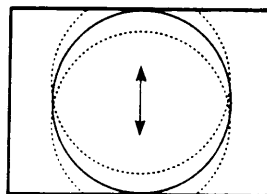

Fig 1.
- d: Adjust the Vertical location to obtain picture centring (fig.1).